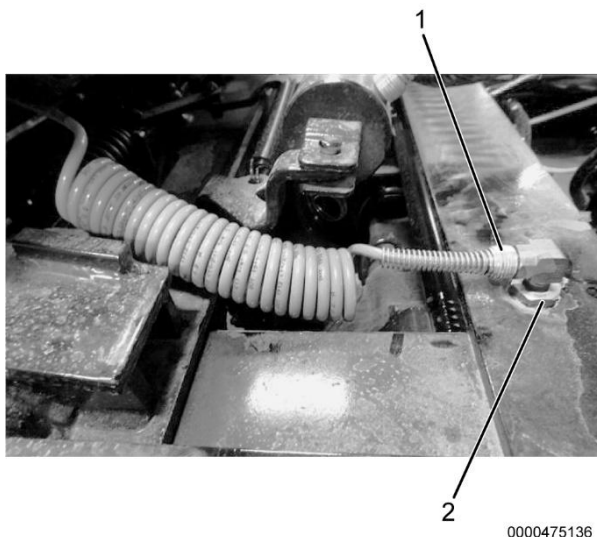

Figure 1. Fifth Wheel Air Line
5. Remove air line fitting (Figure 1, Item 1) and anchor coupling (Figure 1, Item 2) from bracket support.